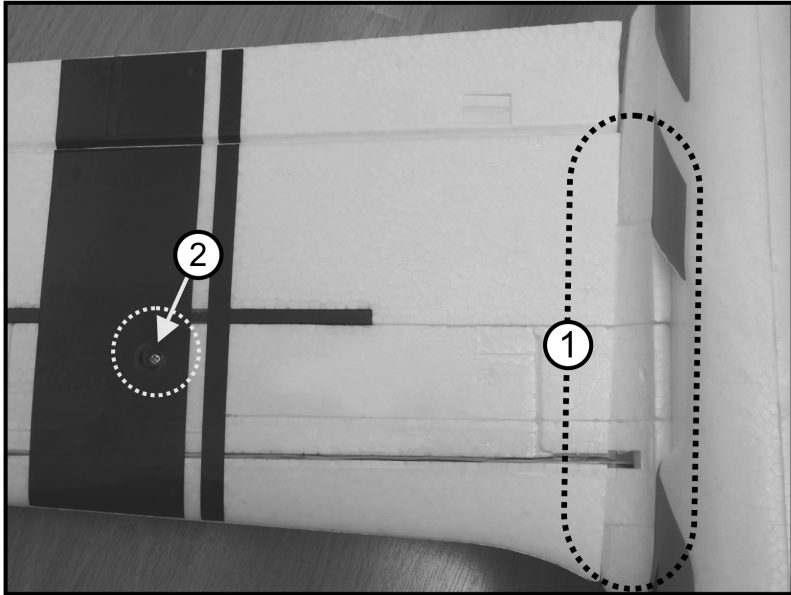

Figure 7
The wings are installed in the fuselage slots on the left and right. For this, push the enclosed wing rod (2) into the wing (1). The wing rod is later secured with one screw each with the wing pushed on. To install the wing rod, these screws may need to be turned out a little at initial assembly (see figure 7).